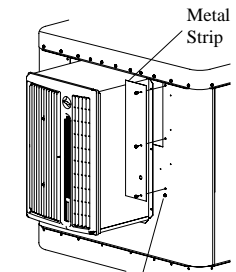

Fig. 12
8. Skip this step for the RWC35 & RN35W models. Remove the three screws (2 in models WC37 & N37W) from each side of the front panel as shown in figure 12.
9. To cover up the gap in the front panel, use the two strips of metal obtained from Customer Service. Line up the holes in the metal strips to the holes in the front panel and secure them with the screws previously removed in step 8. (See Fig. 12) Install the metal strips so that there is no gap between the top pan and the metal strip. If there is a gap, turn the metal strip around.